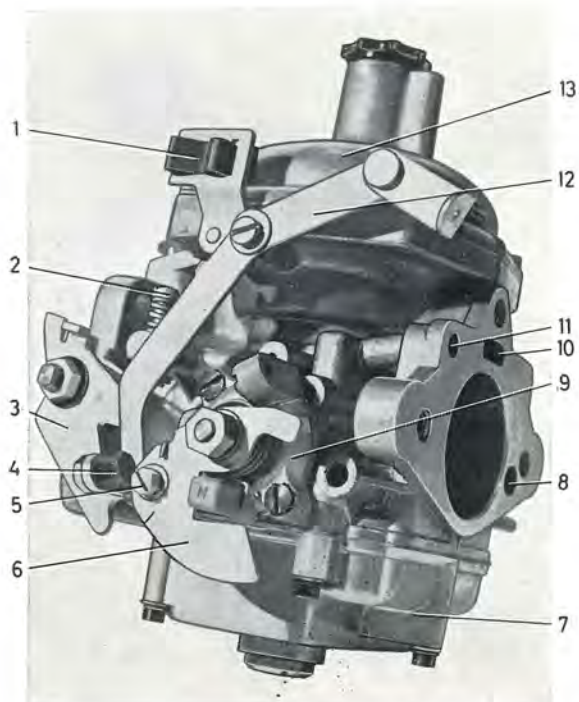
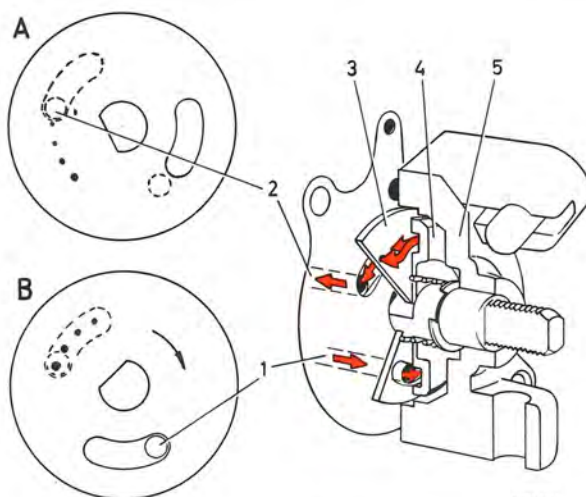

Fig. 2-58. Carburetor, rear, from the left
Fig. 2-60. Cold start device
To facilitate starting during cold weather, the rear carburetor is fitted with a cold start device (Figs. 2-58, 2-60 and 2-61).
The cold start device consists of a valve disc (3, Fig. 2-60) which is provided with four calibrated holes and an elongated opening as well as a disc (4) mounted on a spindle which is operated by the choke control. On the same spindle, outside the housing (5), there is
a cam disc (6, Fig. 2-58) with connection for the choke control pull wire. When the cold start device is engaged, the valve disc turns and this links up the channel (1, Fig. 2-60) from the floatchamber via one or several of the calibrated holes to the channel behind the valve disc and then the opening to the channel which terminates in the venturi (2), between the vacuum plunger and choke flap. Through this link-up, the engine receives extra fuel (a richer mixture), to facilitate cold starting. At the same time, less air is supplied by means of the choke device. When the choke control is pushed in, the valve disc turns and closes the inlet to the channel. At the same time as the cam disc is operated, the throttle flap opening is also influenced in such a way that turning the cam disc opens the throttle through the fast idle stop screw (4, Fig. 2-60) and the lever, before any of the calibrated holes open the connection to the fuel drilling. With this arrangement, the idling speed can if necessary be raised by the driver of the vehicle during the warming-up period of the engine.